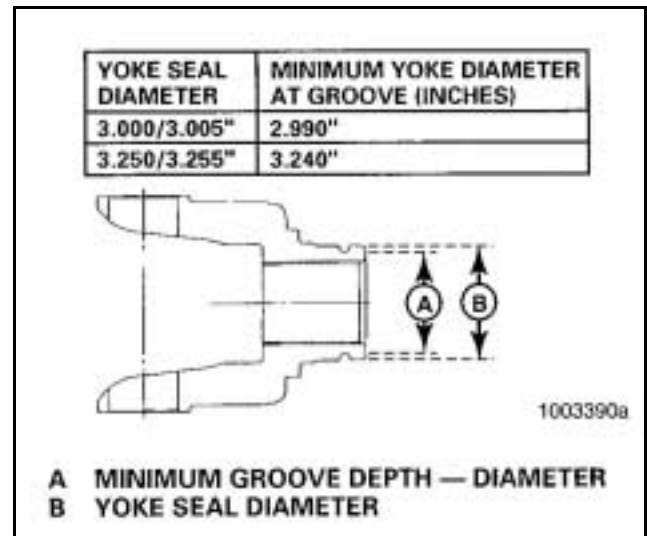

Figure 35
- a. The rubber inner sleeve of the unitized pinion seal (UPS) allows the reuse of yokes with grooves unless the groove depths are excessively deep. If grooves are present, measure the groove diameters with calipers. Refer to **Figure 35** to determine if yoke is usable.
3. If any of the yoke grooves measure less than the dimensions in **Figure 35**, replace the yoke. The rubber inner sleeve of the unitized pinion seal (UPS) is designed to seal on the yoke and rotate with the yoke.